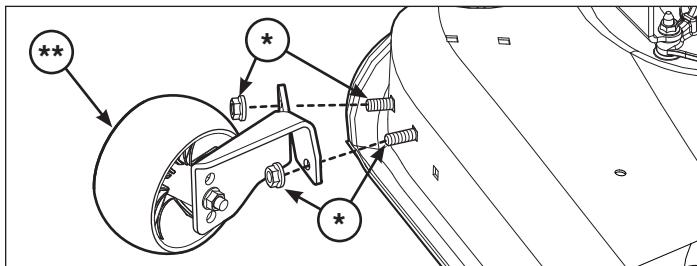

Figure 10
1. On the right side of the discharge opening, remove nuts, bolts (*, Figure 10) and front wheel gage assembly (**).